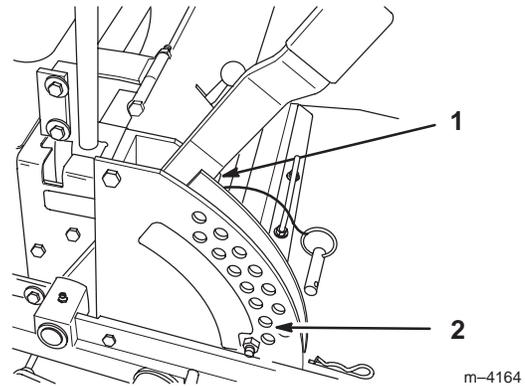

Figure 51
- Place two 1-1/2 in. (38 mm) thick blocks under rear left and right lower edge of mower. Place one 2-1/4 in. (57 mm) block under front center lower edge of mower. Lower mower to the 2 in. (51 mm) height-of-cut position (Fig. 51).
1. Raise deck lift lever to the transport position, (Fig. 51).